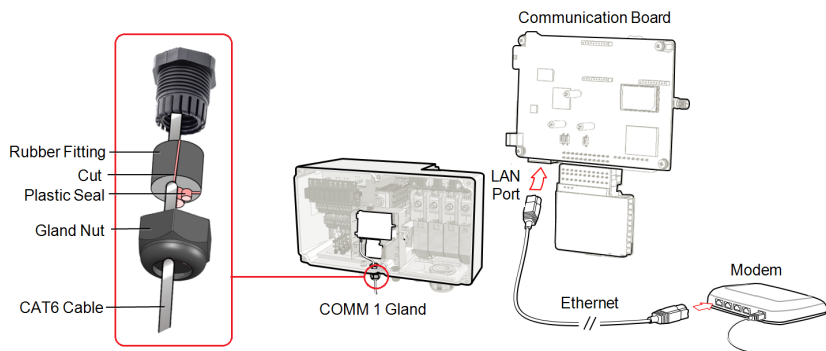

Figure 28: Inserting the Ethernet (CAT6) cable
- Connect the Ethernet connector to the RJ45 port on the communication board as shown in *Figure 28*.